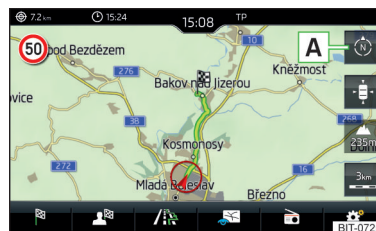

Fig. 213
- To **change the map orientation**, go to the *Navigation* main menu and tap on function surface \mathcal{P} **A** » Fig. 213.